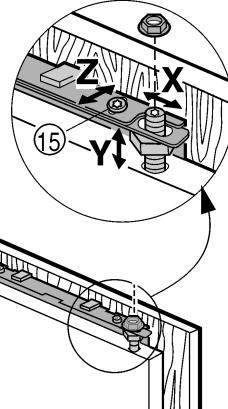

Fig. 22
- ▶ Align the unit door in depth **Z** : loosen the upper screws Fig. 22 (15), lower screws Fig. 23 (24), then move the door.